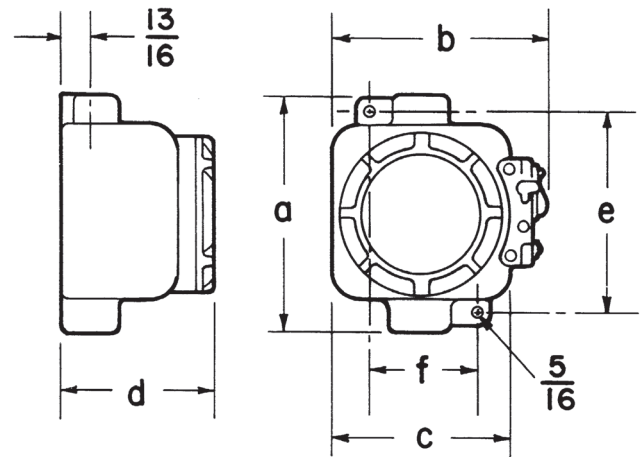

Figure 1
1. Select mounting location that will provide suitable strength and rigidity for supporting the enclosure. The mounting dimensions are shown in figure 1 for the two mounting pads for lag screws.